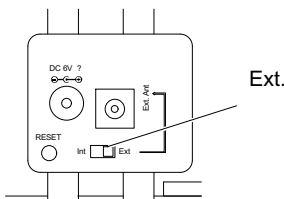

Fig. 2
3. Insert the plug on the GSM antenna in the socket provided. Refer to Fig. 2.